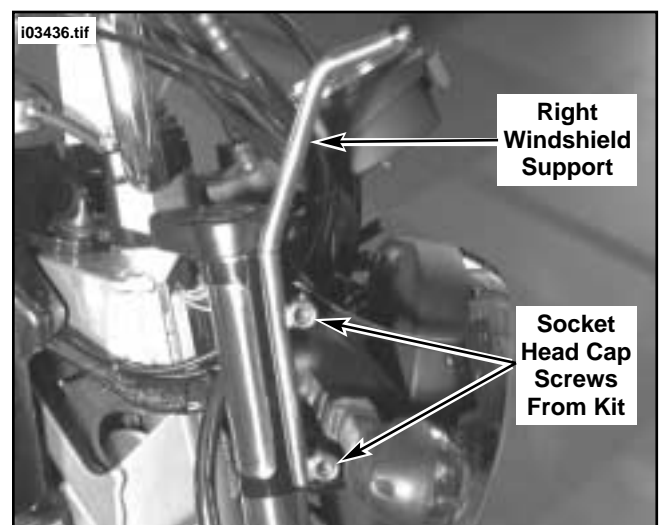

Figure 4. Install Right Windshield Support
4. See Figure 4 and Service Parts Illustration. Obtain the right windshield support and two 1/4-20x1.25 inch socket head cap screws (item 7) from kit. Use screws and install the right side windshield support to the headlamp mount. At this point, just snug screws. Screws will be tightened after windshield alignment is made.